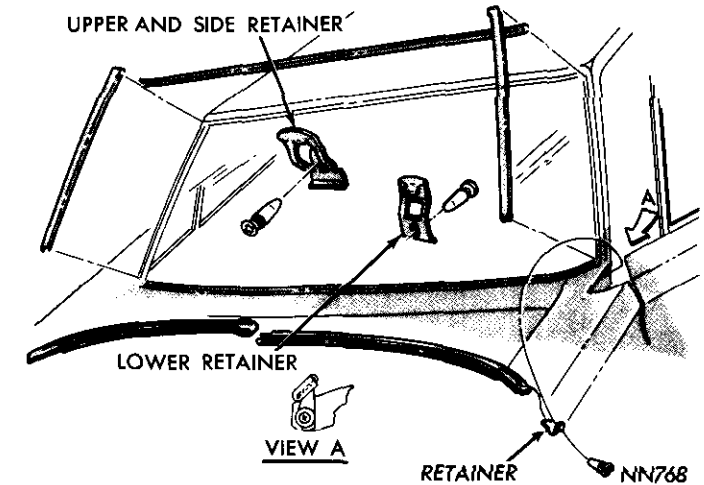

Fig. 1—Windshield Outer Mouldings—Coronet-Charger
- (1) Cover cowl, hood and fender area with a protective covering.
- (2) Remove windshield garnish mouldings.
- (3) Remove windshield outer mouldings (Fig. 1) using Tool C-4009.